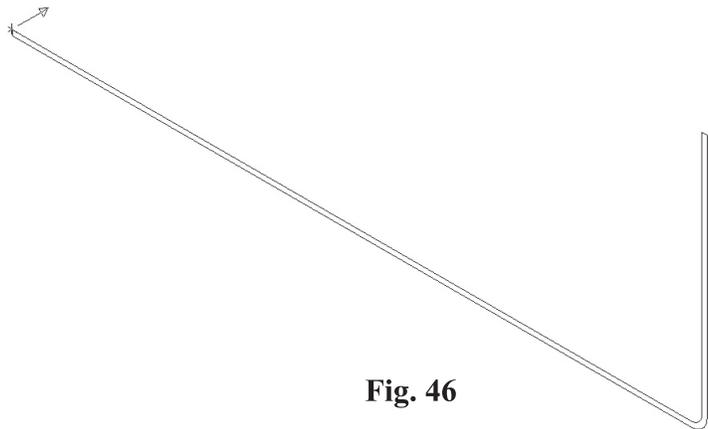

Fig. 46
Step 7. The direction arrow the chain should **point to the right**, **Fig. 46**. If the arrow points in the wrong direction, click Reverse It.